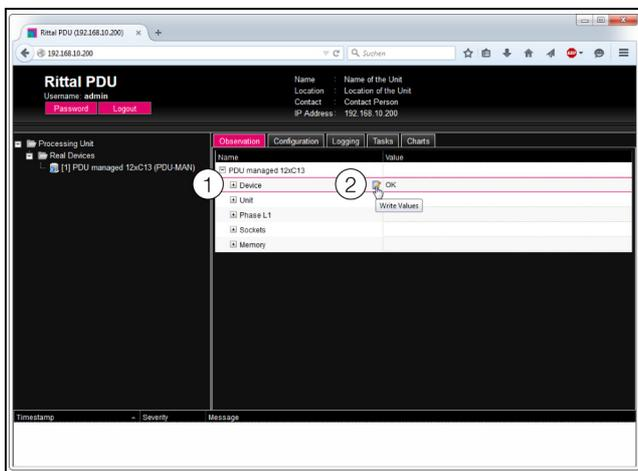

Fig. 33: Select multiple parameters
- Simply open the "Master PDU" entry by clicking on the "plus" symbol in front of that entry (fig. 33, item 1).
- Position the mouse pointer at the end of the first column in the "Device" line (fig. 33, item 2). An "Edit" symbol will appear, and the mouse pointer will change to a "Hand" symbol.